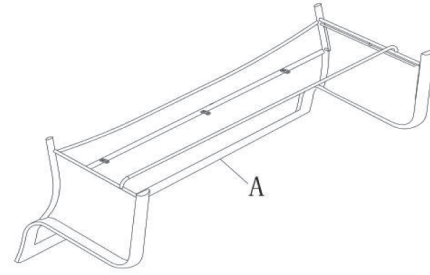

Figure 1
Step 1. Carefully place the seat frame (A) upside down on a non-abrasive surface. (Figure 1)